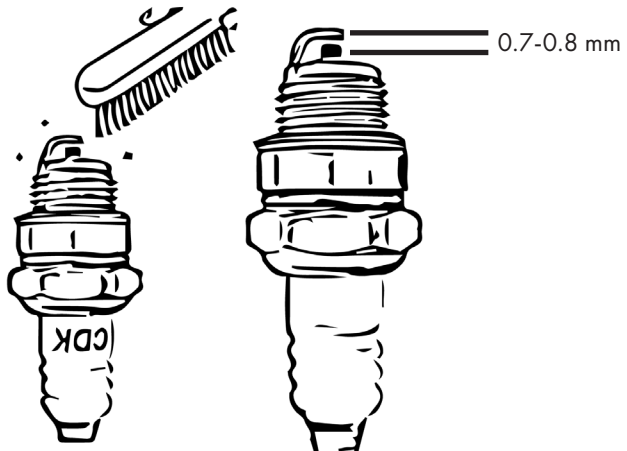

Figure 27
- Set the electrode gap to a target value of 0.7-0.8 mm. See Fig. 27.